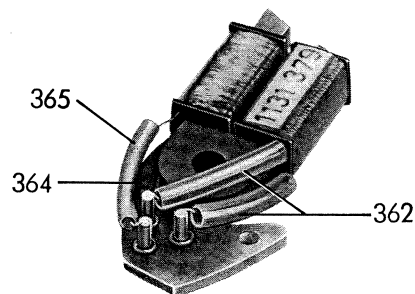

Fig. 3
a) When the shutter is tensioned, the armature must rest with its entire surface against the core of the magnet (contact faces must be clean). The leaf spring of the armature lever **370** must ensure perfect contact of the armature. Force at armature shaft with armature lever spring in position P = 130 – 160 g (Fig. 3).
6. **Terminal carrier 382** (switch). The contact springs have been adjusted in the factory. The contact should break without delay as the drive motion starts. If necessary, readjust the projecting front end of the outer spring **385**. When the contact is open, the springs **385** must rest against the terminal carrier (for pretensioning, see Fig. 2). When the contact is closed, the spring **385** must have lifted off by about 0.2 mm. (Fig. 3). Contact pressure should be at least 15 g. The inner spring **397** should not be changed, except for a possible correction of the contact clearance, which should not be less than 0.5 mm. The drive (pin) must swing out the spring without pushing. 3